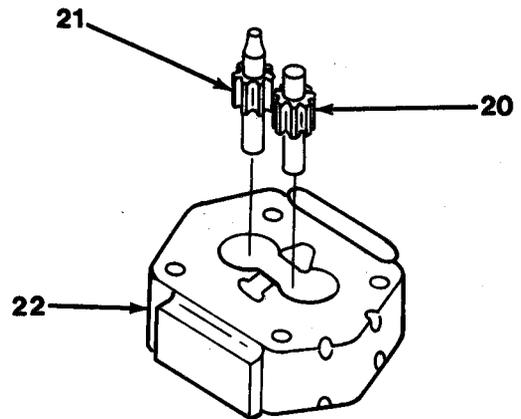

Figure 13-5
5. Remove idler gear (20) and drive gear (21) from gear plate (22, Figure 13-5).